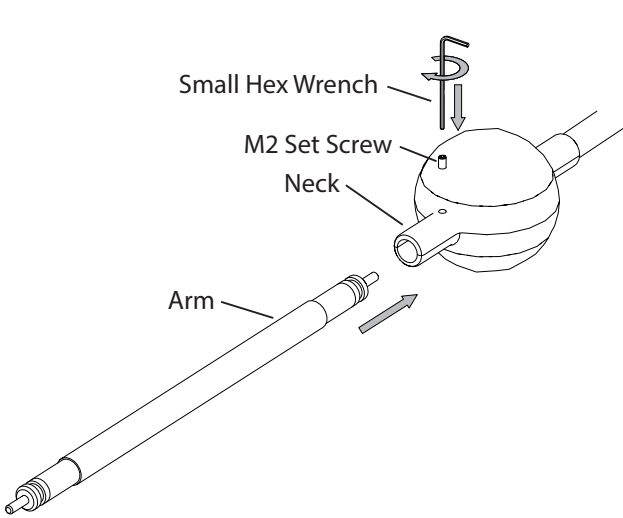

Fig. 3a
1. Install each Arm into an LED Hub by fully inserting the Arm into a Neck on the Hub (Figs. 3a/3b).